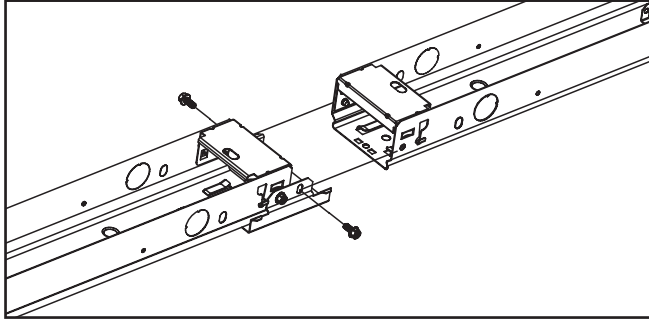
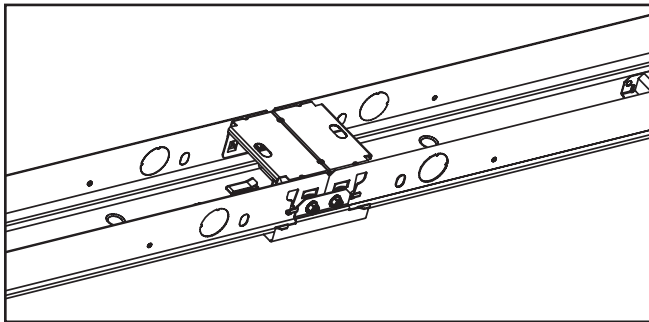

Figure 5.
Figure 6.
3. Install fixture to surface or suspend and wire according to NEC code. Separate end bracket on the adjoining fixture and attach the two fixtures with the midcap/tandem bracket (figure 5, Figure 6). Do not support the fixture with the bracket alone.